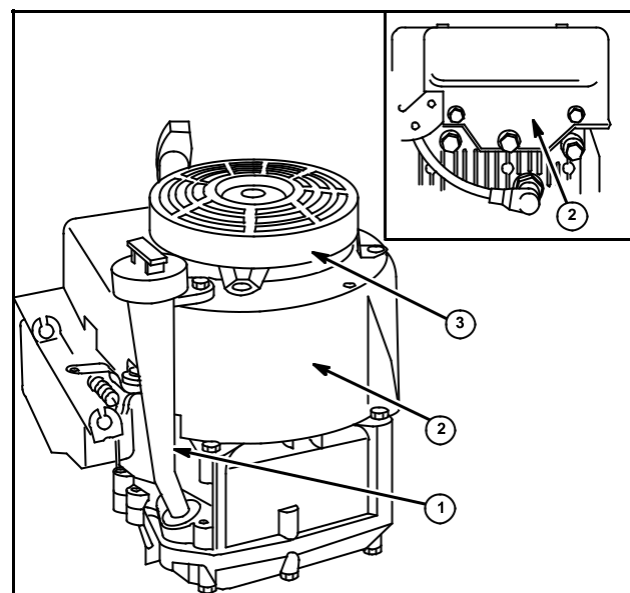

Fig. 41
1. Remove spark plug wire, finger guard and fuel tank, Fig. 41.
2. Remove dipstick, oil fill tube (1), blower housing (2), and starter (3).